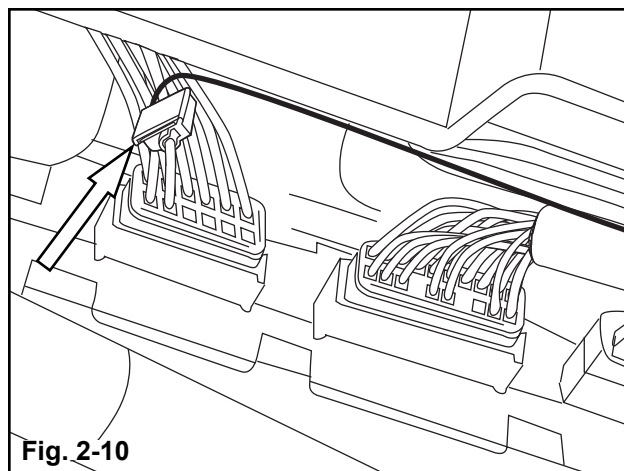

Fig. 2-10
- d) Using IDC wire tap, connect **RED wire** of the EC mirror harness to the located switched +12 Volt circuit in the vehicle. **(Fig. 2-10)**